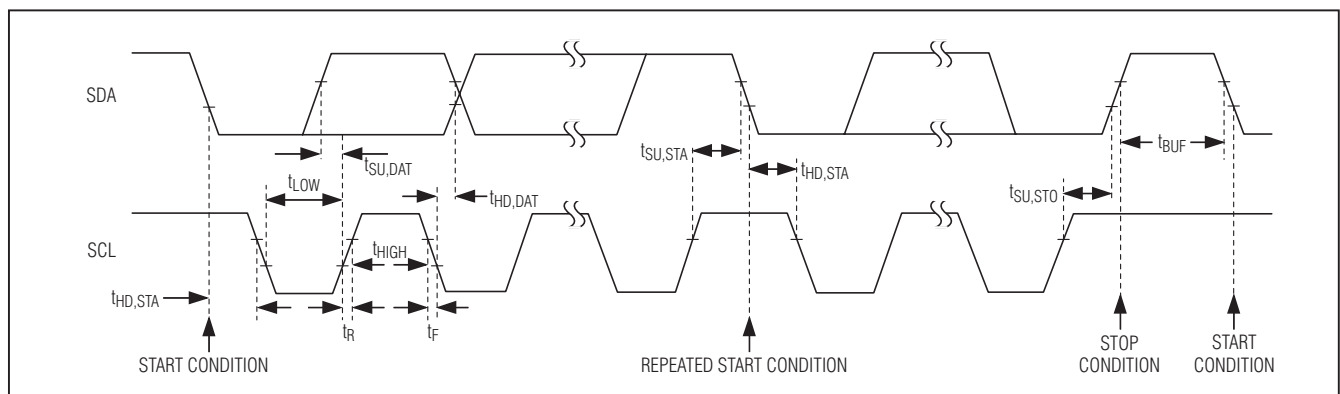

Figure 4. 2-Wire Serial Interface Timing Detail
The I²C interface consists of a serial data line (SDA) and a serial clock line (SCL) to achieve bidirectional communication between the master and the slave. The MAX16826 is a slave-only device, relying upon a master to generate a clock signal. The master initiates data transfer to and from the MAX16826 and generates SCL to synchronize the data transfer (Figure 4).
Both SCL and SDA remain high when the bus is not busy. The master signals the beginning of a transmission with a START (S) condition by transitioning SDA from high to low while SCL is high. When the master has finished communicating with the MAX16826, it issues a STOP (P) condition by transitioning SDA from low to high while SCL is high. The bus is then free for another transmission (Figure 4). Both START and STOP conditions are generated by the bus master.